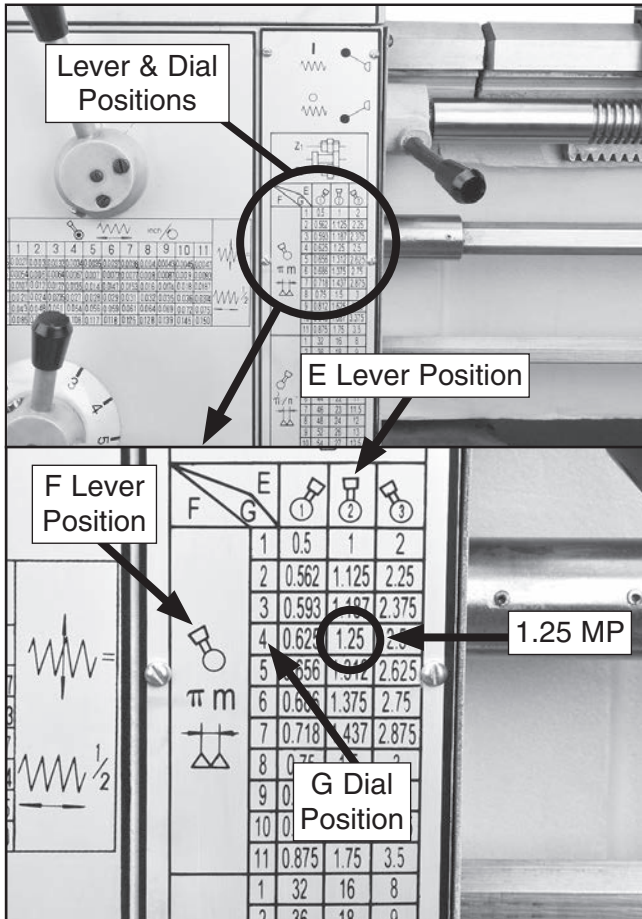

Figure 98. 16 TPI and corresponding lever and dial positions.
3. To the left of 1.25 MP, locate the **F** lever in the left position, and **G** dial in the 4 position. Above 1.25 MP, locate the **E** lever in the 2 position (see Figure 98).